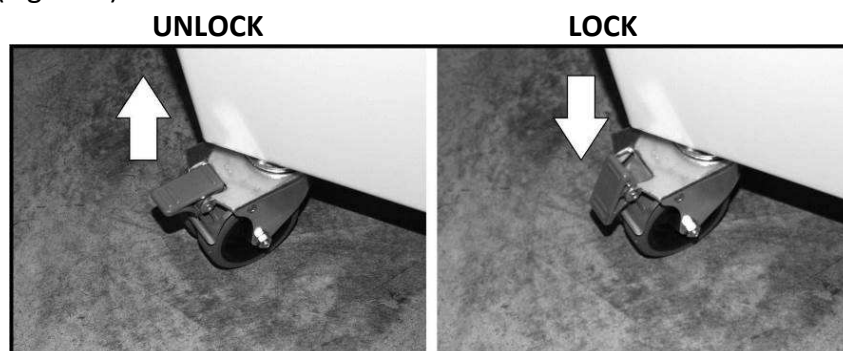

Figure 7
Ensure that there is enough space around the machine to operate comfortably and to correctly carry out any cleaning, adjustment and/or maintenance operations. Brake the wheels by lowering the dedicated levers (Figure 7).
- Before using the machine, ensure that all the wheels fitted with brakes are blocked (see Figure 7)